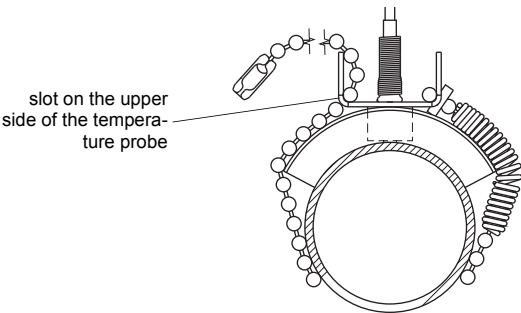

Fig. 8.3: Mounted temperature probe
- Place the chain around the pipe. Tighten the chain and insert it in the other slot of the temperature probe (see Fig. 8.3).